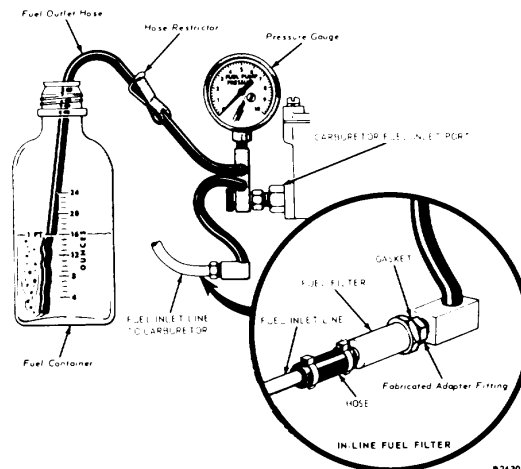

FIG. 3. Typical Fuel Pump Pressure and Capacity Test Equipment
2. Connect a pressure gauge, a restrictor and a flexible hose (Figure 3) between the fuel filter and the carburetor. **NOTE: Inside diameter of smallest passage in test now circuit must not be smaller than .220.**
3. Position the flexible fuel outlet hose and the restrictor so the fuel can be discharged into a suitable graduated container (Figure 3).
2. Open the hose restrictor and expel the fuel into the container (Figure 3), while observing the time required to